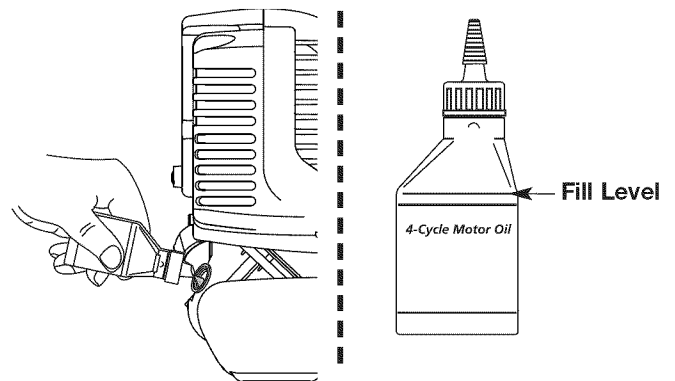

Fig. 18
**NOTE:** Use the bottle and spout saved from initial use to measure the correct amount of oil. Pour fresh fuel into the bottle and fill it to the top of the label (Fig. 18). The top of the label on the bottle measures approximately 3.04 ounces (90 ml). Check the level with the dipstick. If the level is low, add a small amount of oil and recheck. Do not overfill (Fig. 18).